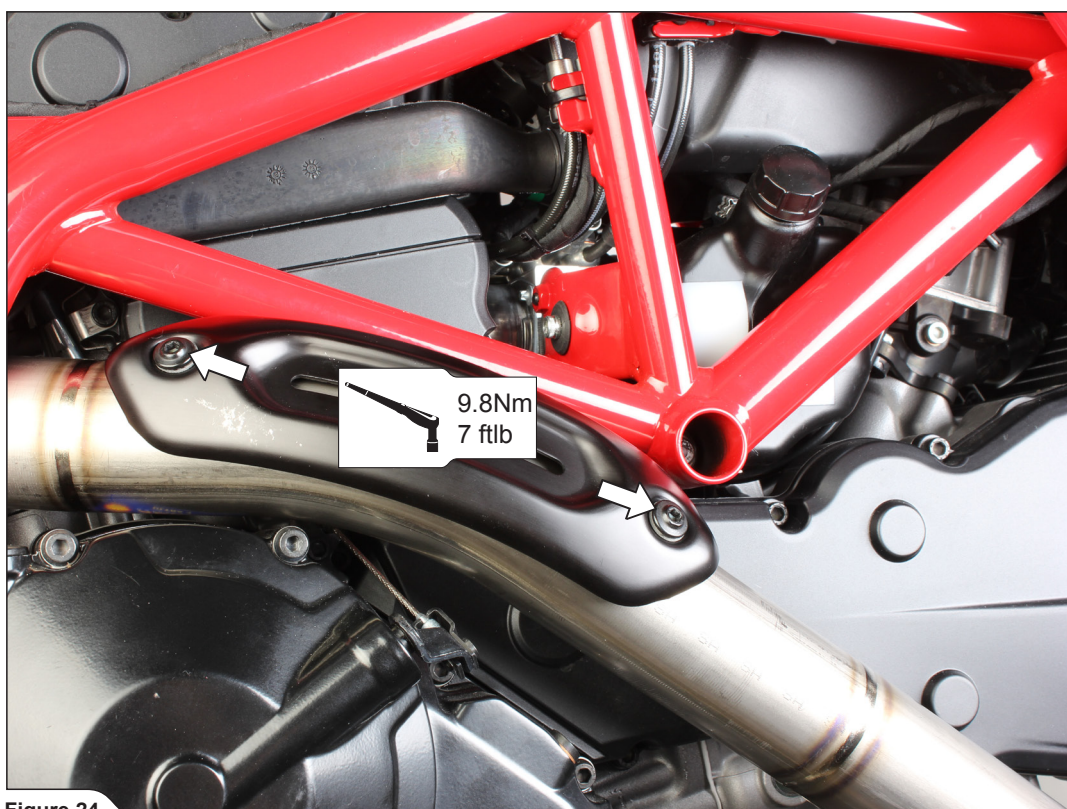

Figure 24
5. Install the front stock heat shield, using stock bolts and heat resistant washers (Figure 24).